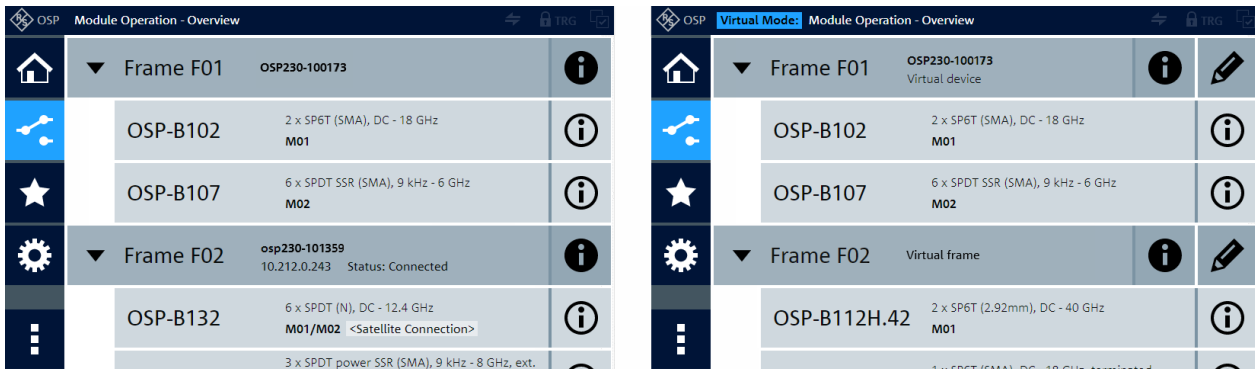

Figure 6-10: The module operation dialog (right: in Virtual Mode, which also allows editing)
- The list view of the "Module Operation" dialog (Figure 6-10) provides the following functions:
Starting from the "Module Operation" dialog in the **list view** as in Figure 6-10, click a module's entry to operate this module in its individual **interaction dialog** (detail view).